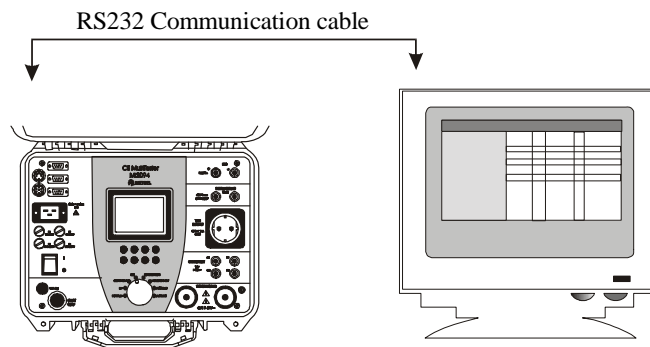

Fig. 53. Connection of CE MultiTester to PC by RS232 or USB interface cable
- STEP 1.** Connect CE MultiTester to PC as shown in fig. 53 using appropriate RS 232 or USB communication cable.